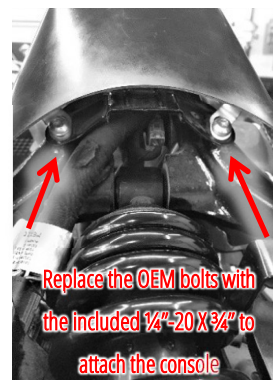

Fig.1
9. Put the console between the gas tank and the seat as shown on the picture below and adjust it's position. Use the included 1/4"-20 X 3/4" hex bolts and washers to replace the OEM ones. You may also need to adjust the shape of the console according to the shape of your tank and seat (Fig. 1).